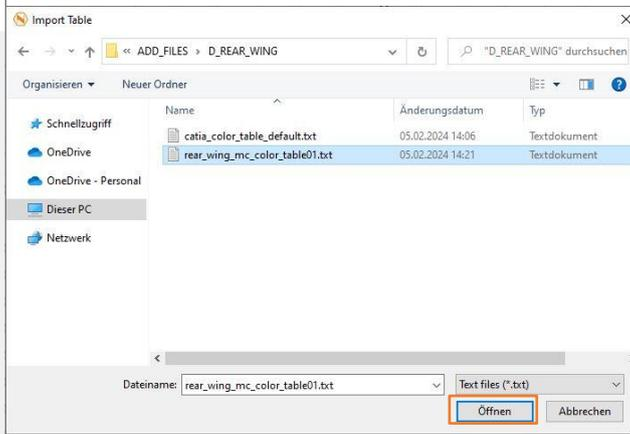

Figure 268
- 62. In the rear wing example folder, you will find the "rear_wing_mc_color_table01.txt" file. Select this file and click on open **Öffnen** (Figure 268).